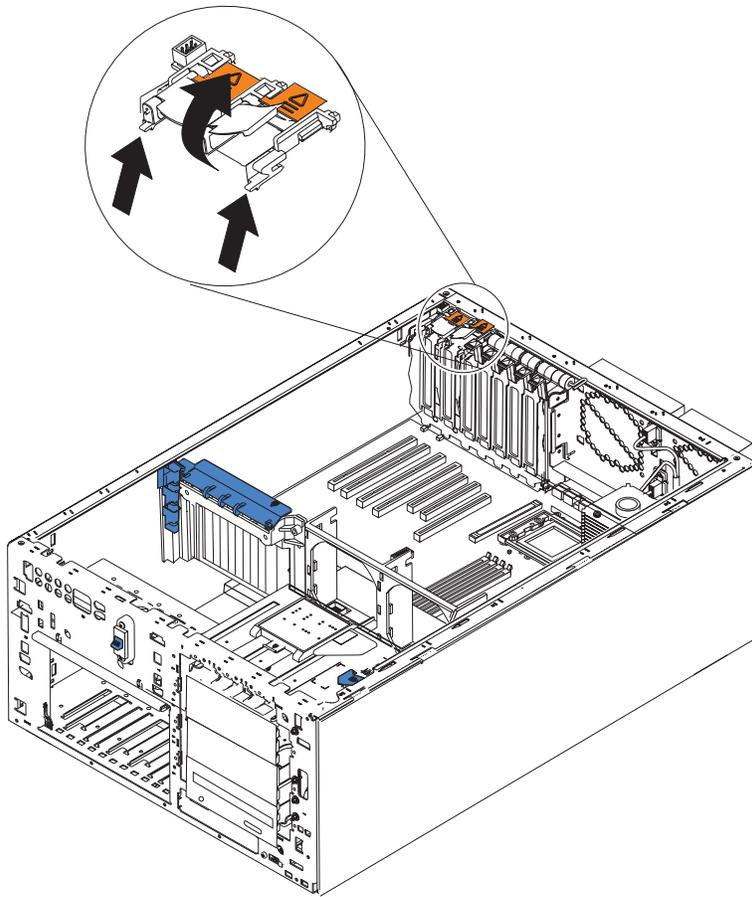

Figure 26. Removing the Active PCI card
7. Press the two tabs (see Figure 26 on page 80) on the card and remove it from the chassis.